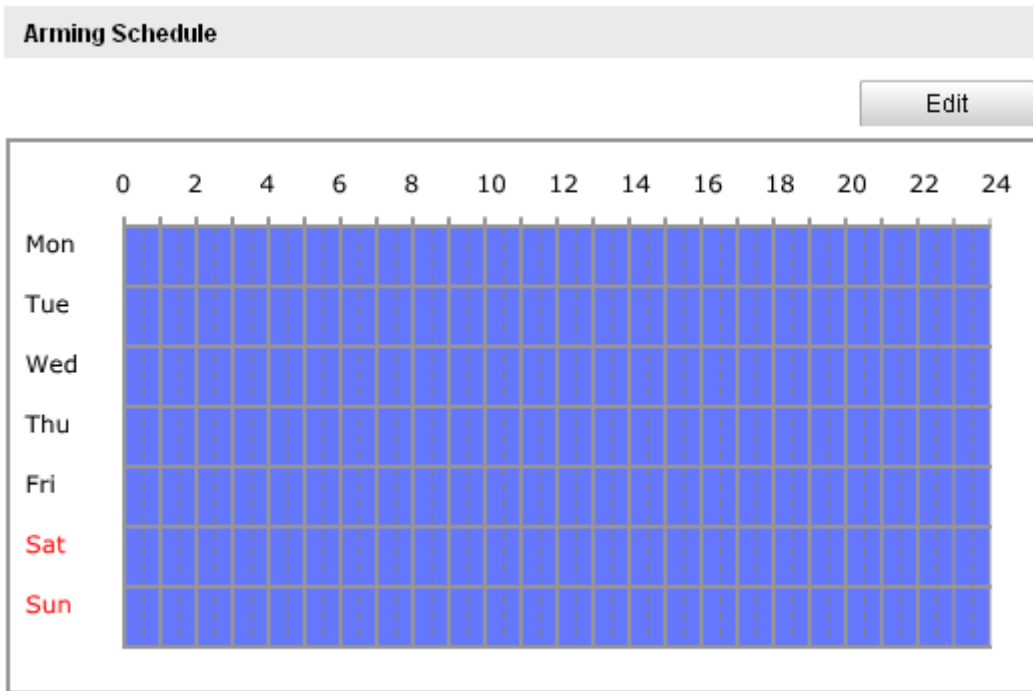
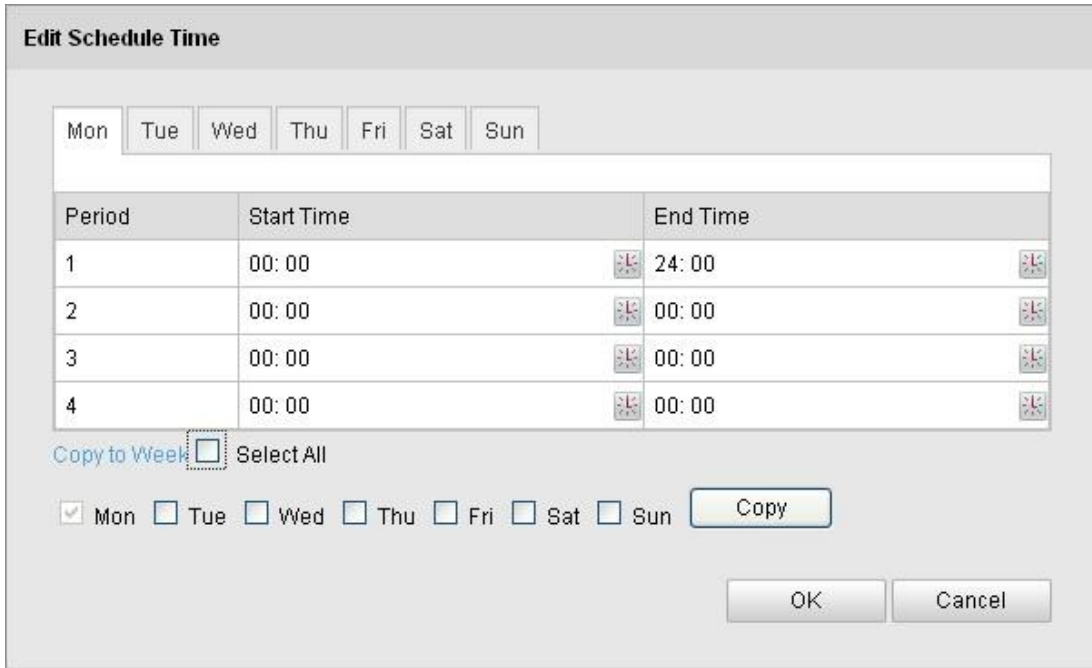

Figure 6-41 Arming Schedule
Figure 6-42 Arming Time Schedule
(1) To edit the arming schedule as shown in Figure 6-42, click in Figure 6-41.
(2) Choose the day you want to set the arming schedule as shown in Figure 6-42.
(3) Click to set the time period for the arming schedule.
(4) After you set the arming schedule, you can click to copy the schedule to other days (Optional).
(5) Click to save the settings.